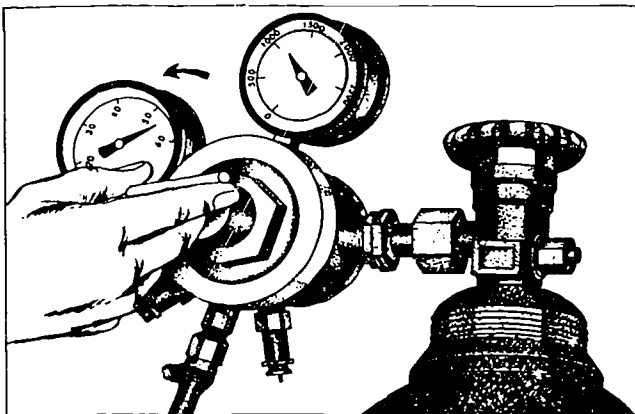

Figure 1-16. Releasing regulator pressure.
**Stationary Outfit.** To close down a stationary welding outfit, close the torch acetylene valve and then the torch oxygen valve. Turn off the line valves. Open the torch acetylene valve until the regulator gage shows no pressure; then close this valve. Open the torch oxygen valve until the regulator gage shows no pressure; then close this valve. Shut off the regulator by turning the adjusting screw counterclockwise (fig. 1-16). These actions relieve the pressure on the regulator diaphragm. Next, hang up the hose and torch, being careful to avoid kinking the hose.